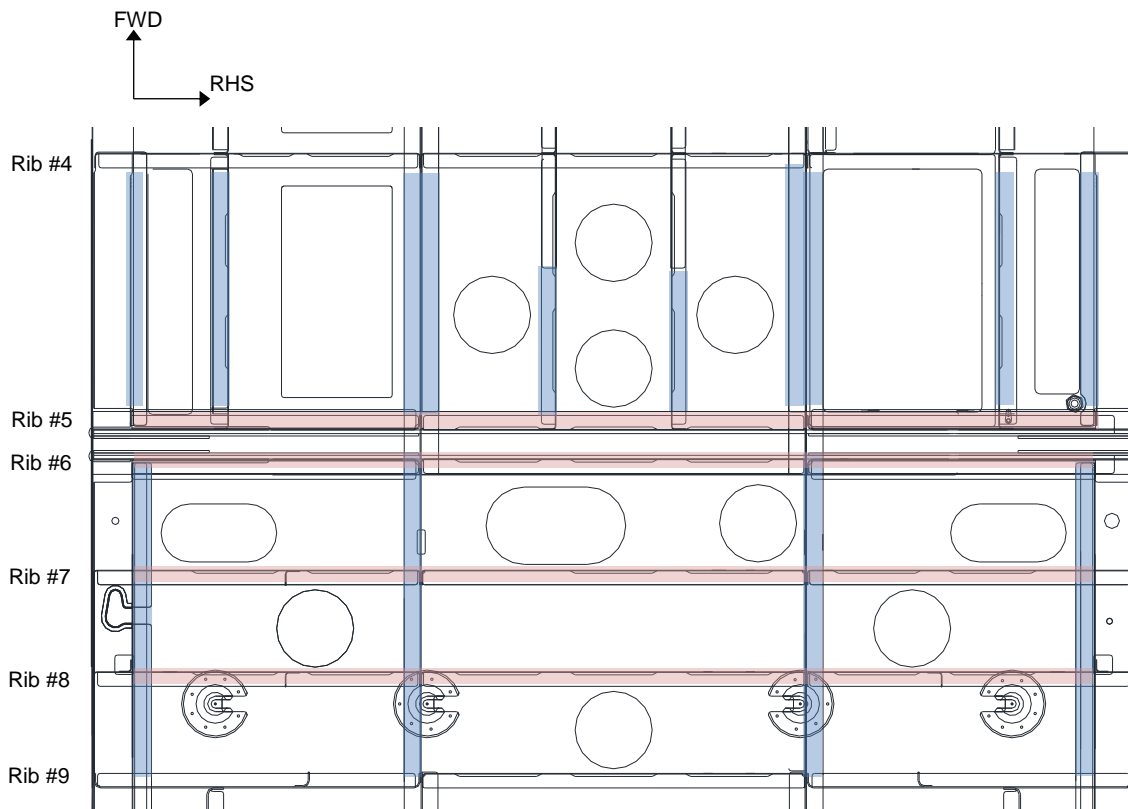

Figure 31: Forward and Centre Floor Skin Rivet Removal.
- 1) De-riquet the Cockpit Floor Skin at Rib #5 and Rib #6 along entire skin width as shown in Figure 31.
- 2) De-riquet the Cockpit Floor Skin at the underfloor intercostal locations between Rib # 4 and Rib #6 as shown in Figure 31. For the centre most two ribs, de-riquet only aft of the Centre Console Side Panels from where the Flap Lever Assembly was removed.
- 3) De-riquet the LH Outboard, LH Inboard, RH Inboard and RH outboard seat rail attachment fasteners (nut-plate rivets) between Rib #4 and Rib #6 as shown in Figure 31.
- 1) De-riquet the Centre Floor Skin at Rib #6 and Rib #8 across entire width as shown in Figure 31.
- 2) De-riquet the Centre Floor Skin at the Keel Beam and along the skin edge between Rib #6 and Rib #9 as shown in Figure 31.
- 3) Note the location of the four seat anchor plates as shown in Figure 31 and carefully remove.